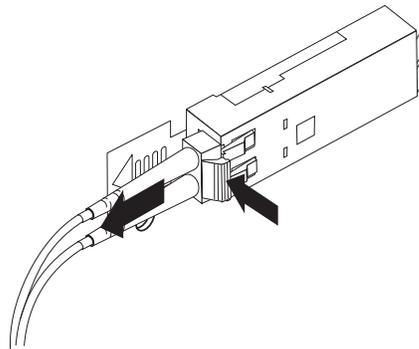

Figure 33. Removing the LC-LC fibre-channel cable
2. While pressing down the cable lever, carefully pull on the connector to remove the cable from the SFP module, as shown in Figure 33.